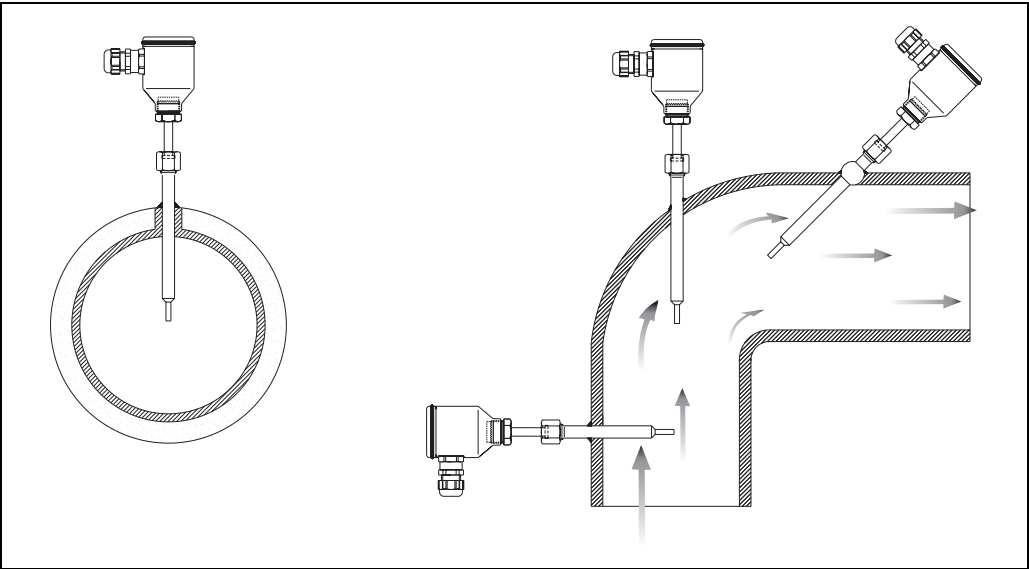

Fig. 2: General installation solutions for TR 47
In both sensors the immersion depth may have an effect on the accuracy of the measurement. If the immersion is too low, an error may be generated in the recorded temperature due to the lower temperatures of the process fluid near the walls and heat transfer, which takes place through the sensor stem. The incidence of such an error can be not negligible if there is a big difference between the process and the ambient temperature. To avoid this source of inaccuracy, the immersion length (L) should be, if possible, at least 80 mm. In pipes with a small diameter, the axis line of the duct must be reached, and even slightly exceeded, by the tip of the probe (refer to figures 2 and 3).
Insulation on the outer part of the sensor reduces the effect of the low immersion. Another solution could be a tilted installation (see figures 2 and 3).